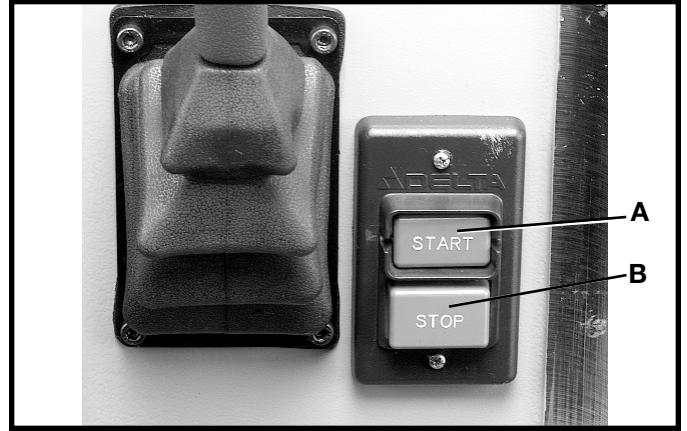

Fig. 13
1. The power switch (A) Fig. 13 is located on the front of the planer. To turn the machine on, push the "START" button.
2. To turn the machine "OFF", push the stop button (B).